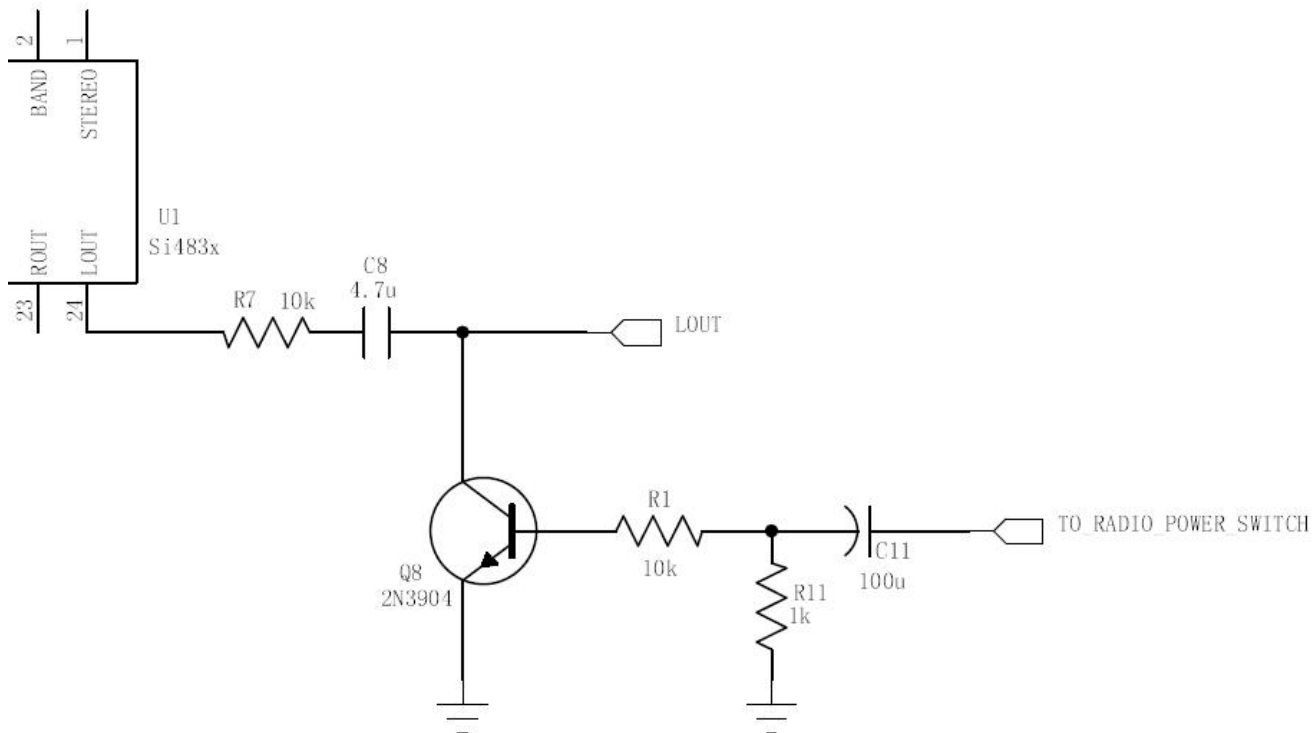

Figure 7. Power On Pop Noise Muting Circuit
3. To completely remove the power on pop noise, adding a transistor + E-cap muting circuit as shown in Figure 7 to Lout and Rout of Si4831/35 respectively.